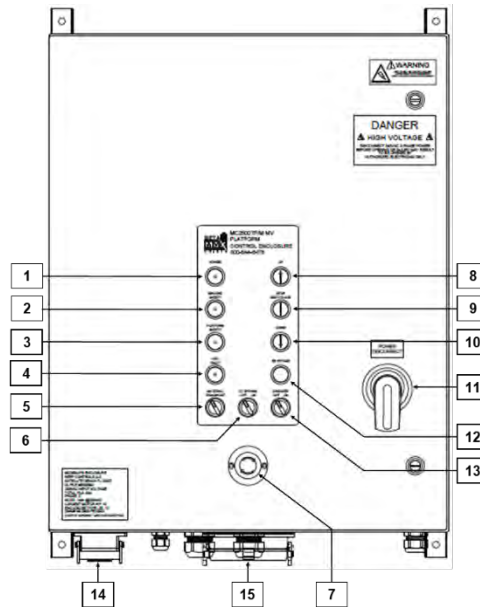

Figure 9.4
- Ensure all guarding is closed and the GROUND SAFETY (2) and PLATFORM SAFETY (3) is lit.
- Verify the mode selector switch (5) is in MATERIAL mode in Figure 9.4. Switch will be turned to the left.
- UP (5) or DOWN (6) pushbuttons are used to move the machine in the direction desired.
- ENGAGE/FLOOR BYPASS (4) pushbutton allows the operator to signify to the machine there is an intention to operate and acts to bypass the landing that is being approached by the machine. Press and release to announce intent to travel, then act upon the UP or DOWN buttons. While the machine is in motion and approaching a landing not to be serviced, press and release this button to bypass that floor. Once stopped at the correct floor, press and hold this button for .5sec until the PLATFORM SAFETY light (3) turns off. The exit ramp is now unlocked and can be opened.
- The AUTOMATIC GREASER (13) Figure 9.4 selector allows the lubricating pump to disperse grease onto the rack when turned to the right. This operation only works during the upward motion of the machine.
- EMERGENCY STOP (7) button is used to stop the machine instantaneously. It is used in emergencies. Rotate the head in the direction of the arrows to release the button.